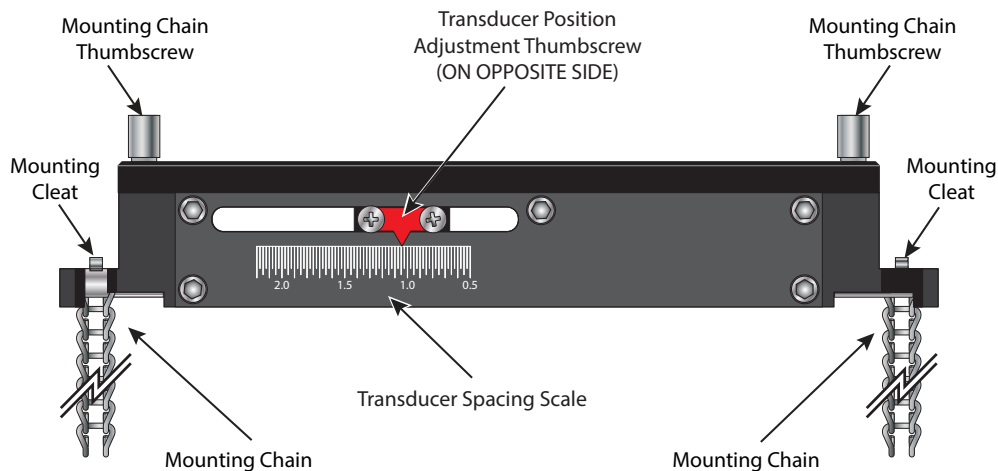

Figure 3: Transducer top view
2. Loosen the position adjustment thumbscrew and slide the transducer along the scale to set the distance between the them. The scale shows the distance in inches. See Figure 3.